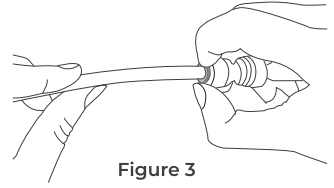

Figure 2
- If the tubing is too long, cut it to a suitable length with a sharp utility knife or scissors. Cut the tubing squarely and cleanly (**Figure 2**).